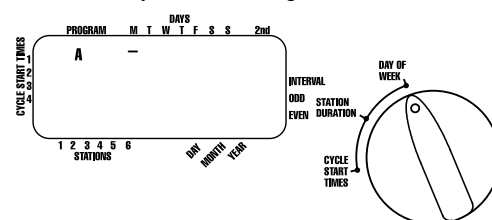

FIGURE 6: LCD Display with Watering Days
- Turn the rotary dial to **DAY OF WEEK** in program A. The display will show an “A” and the cursor will blink under the days of week Monday, Tuesday, Wednesday, etc. [See Figure 6].